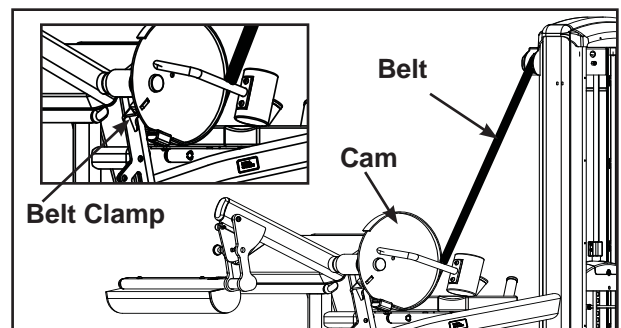

Figure 2
- B. Route belt down and around cam. See Figure 2.
- C. Slide belt through slot in belt clamp. See Figure 2.